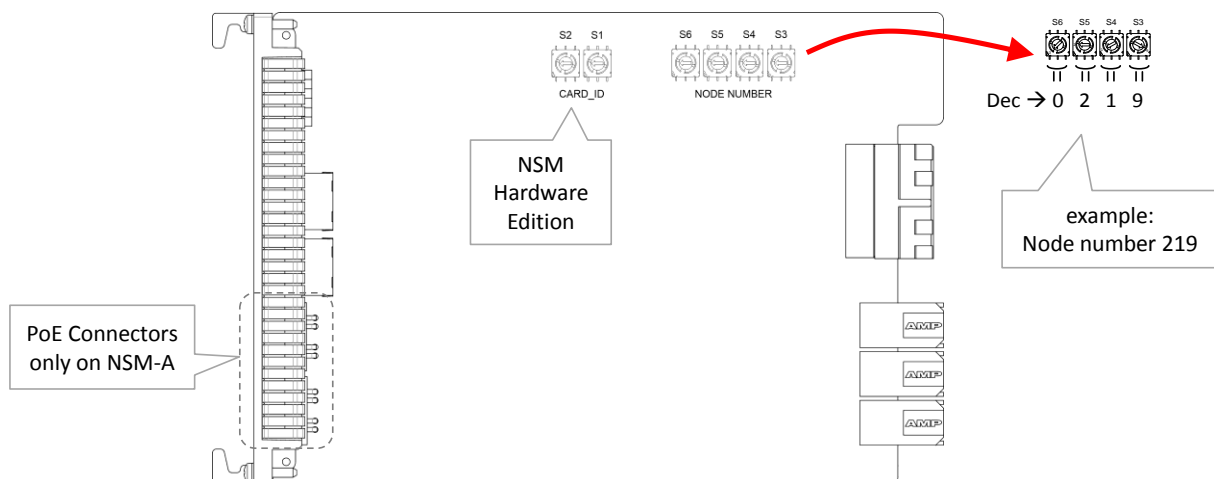
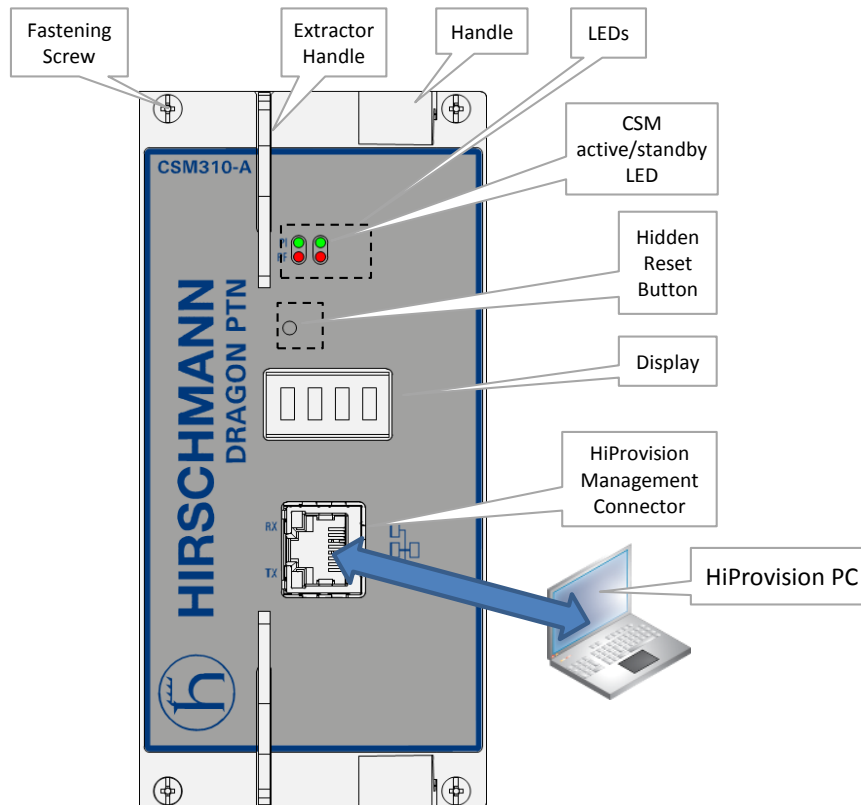

Figure 2 NSM Side View: Node Number
Figure 3 CSM Front Panel
2. Set a node number for each node by setting the rotary switches S3 to S6 on the NSM (=Node Support Module) of each node, see Figure 2. Each node number must be unique in the network. Valid decimal node numbers range from 0001 to 8999. The configured node number can be verified later on via the CSM (=Central Switching Module) display, see Figure 3. See also the installation instructions in Ref. [1] in Table 1.
occurs via plugging in the copper cable into the 'HiProvision Management Connector' of its CSM(s), see Figure 3;